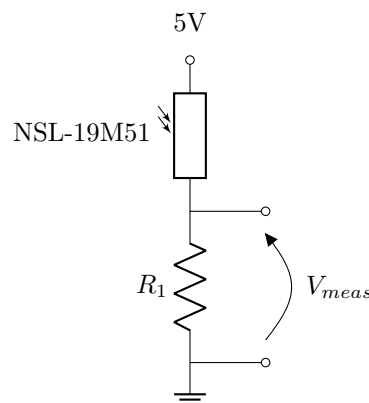

Figure 7: Luminous intensity measurement with a NSL-19M51 photoresistor.
In this project you are required to use a photoresistor to measure the luminous intensity. A photoresistor is a component whose resistance varies with luminous intensity. It has a value around 10 k Ω in the dark, and a value below 3 k Ω when the light is turned on. To use this photoresistor, you should use the electronic circuit shown in Figure 7. The photoresistor is mounted on a voltage
- Use the breadboard to realize the circuit of Figure 7. The 5 V should be taken from the **POWER** pin on the PSoC device (see Figure 1). The ground can be connected to any ground pin of the PSoC device or extension board.